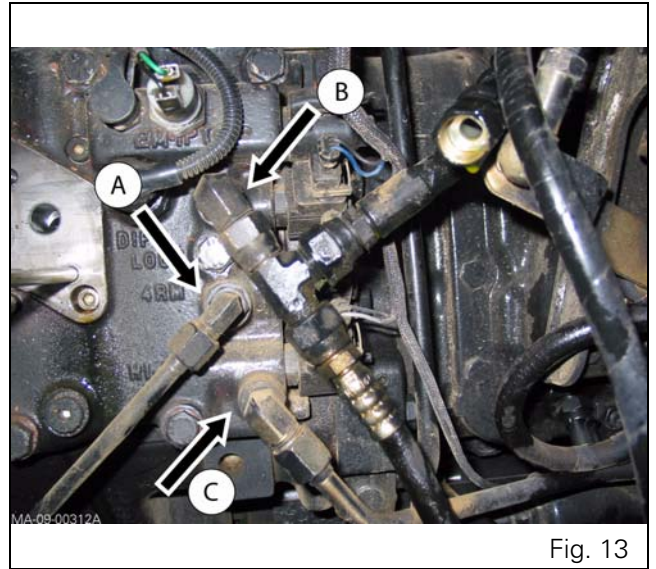

Fig. 13
11. Disconnect and block off the hydraulic unions (A) (B) (C) on the right-hand cover (Fig. 13).